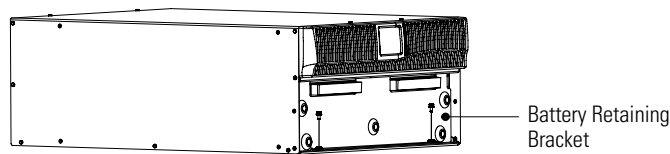

Figure 23. Removing the Battery Retaining Bracket
3. Unscrew and set aside the battery retaining bracket (see Figure 23).